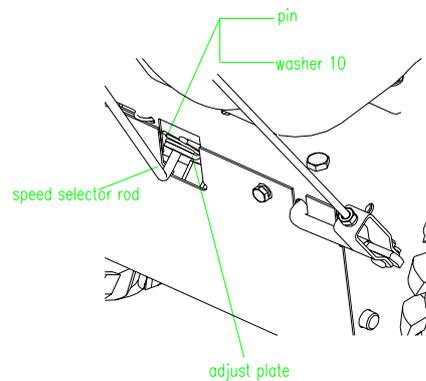
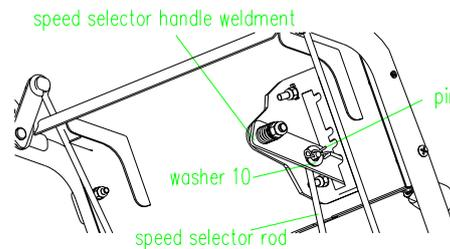

FIG 8
FIG 9
2.5.2 Add washer 10 on the selector rod, and secure it with a pin XSZ56-1-17. (FIG 8, FIG 9)